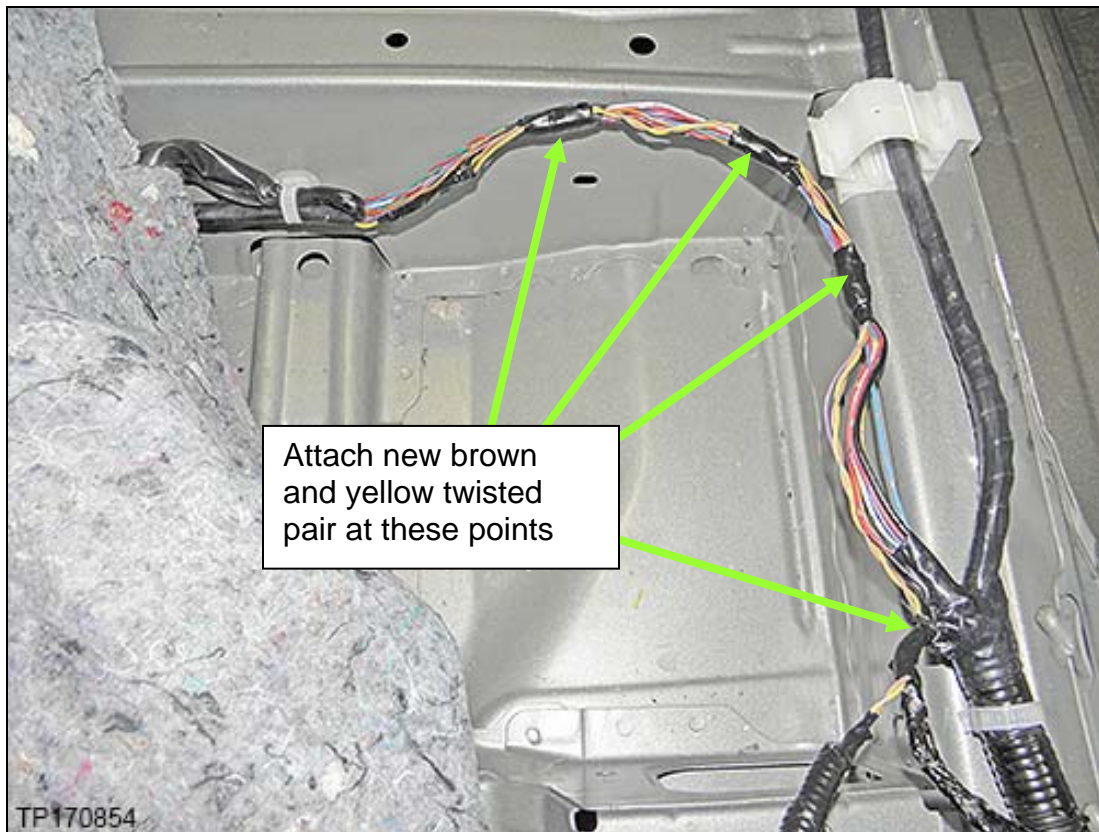

Figure 37
- Attach at the locations shown in Figure 37.